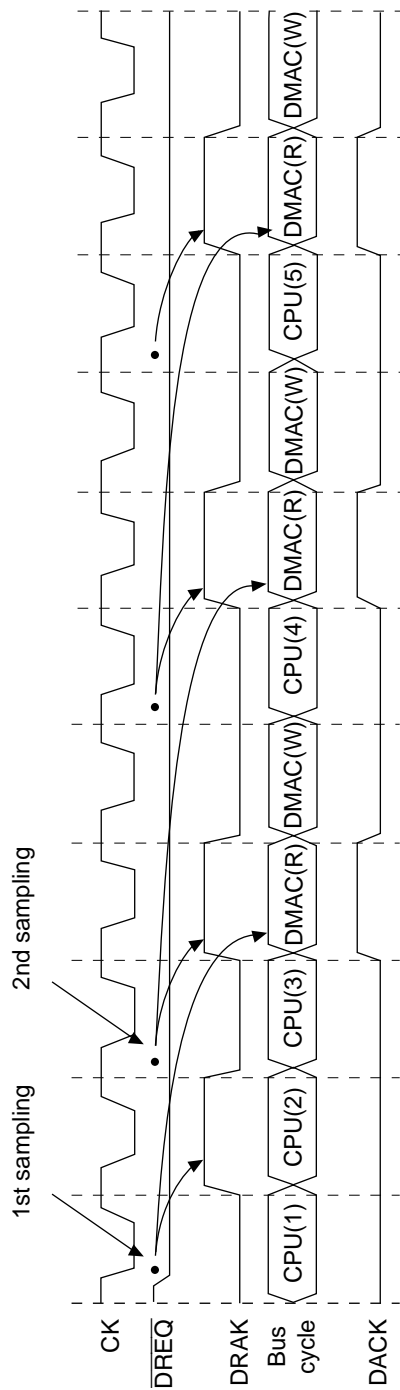
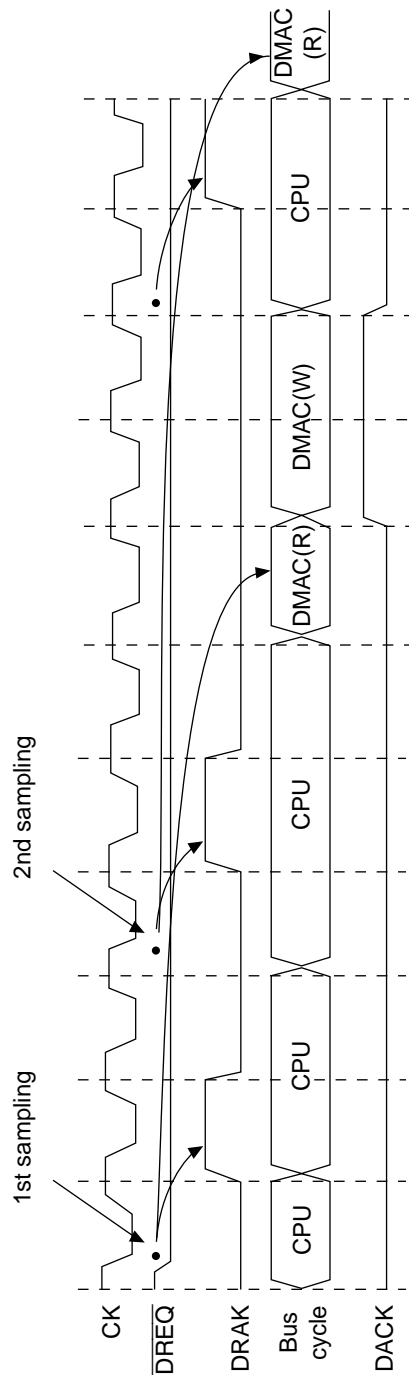

Figure 11.15 Cycle Steal, Dual Address, and Level Detection (Fastest Operation)
Figure 11.16 Cycle Steal, Dual Address, and Level Detection (Normal Operation)
For example, DMAC transfer begins (figure 11.15), at the earliest, three cycles from the first sampling timing. The second sampling begins at the start of the transfer one bus cycle prior to the start of the DMAC transfer initiated by the first sampling (i.e., from the start of the CPU(3) transfer). At this point, if $\overline{\text{DREQ}}$ detection has not occurred, sampling is executed every cycle thereafter.
As in figure 11.16, whatever cycle the CPU transfer cycle is, the next sampling begins from the start of the transfer one bus cycle before the DMAC transfer begins.
Figure 11.15 shows an example of output during DACK read and figure 11.16 an example of output during DACK write.